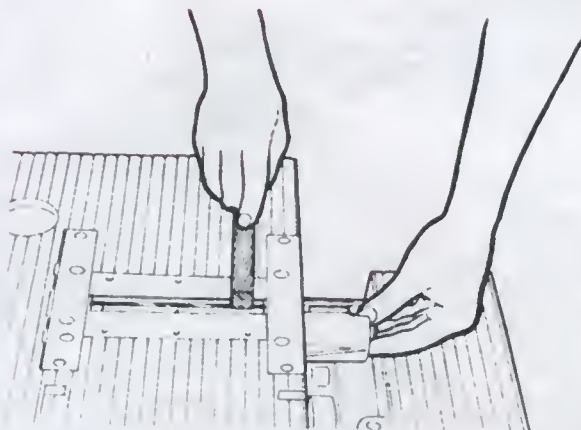

Fig. 13
Use a wooden straight edge to check the position of the knives. With the straight edge resting on table (B), turn the planer head spindle: the blades should barely graze the straight edge (**Figures 13**).